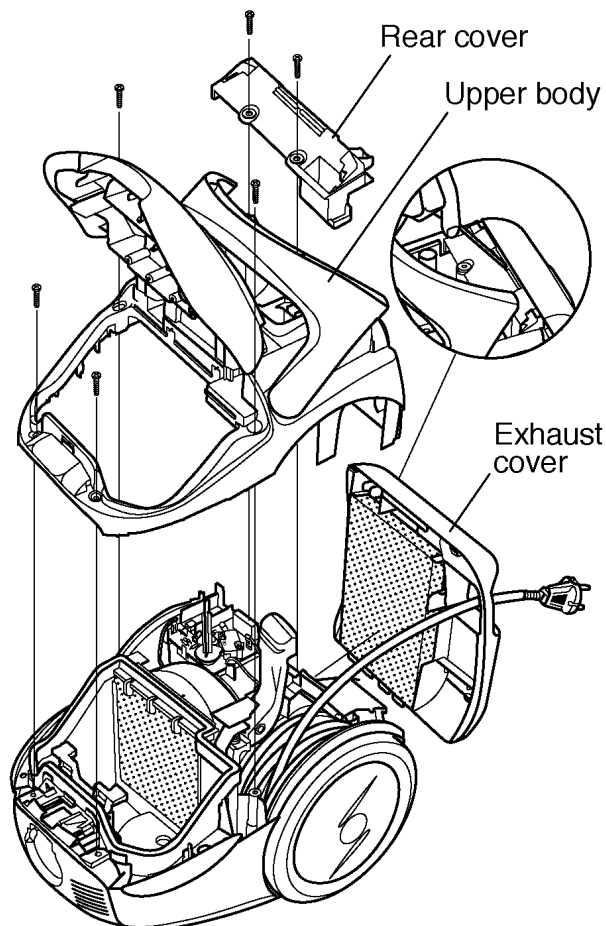

Fig.3
3. Remove exhaust cover, rear cover and 5 screws from upper body and pull to take it out. (Fig. 3) Note: To remove the exhaust cover pry out with a flat head screwdriver as shown in the illustration.